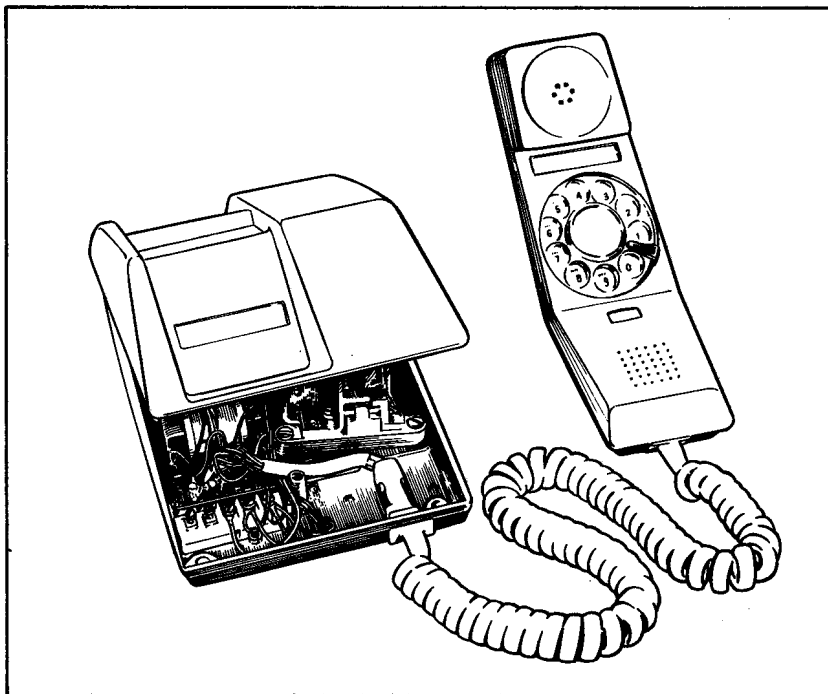

FIGURE 13. Reassembly of Housing
(2) Locate housing at an angle to the base as shown in Figure 13.
(3) Press rear of housing down and toward the back of the base to engage the housing latches with the notches in the base.
(4) Push front of housing down, ensuring that latches remain in notches, so that the retaining screw enters the tapped post in the base.
(6) Insert a station card number and the retainer window in the well in the base.